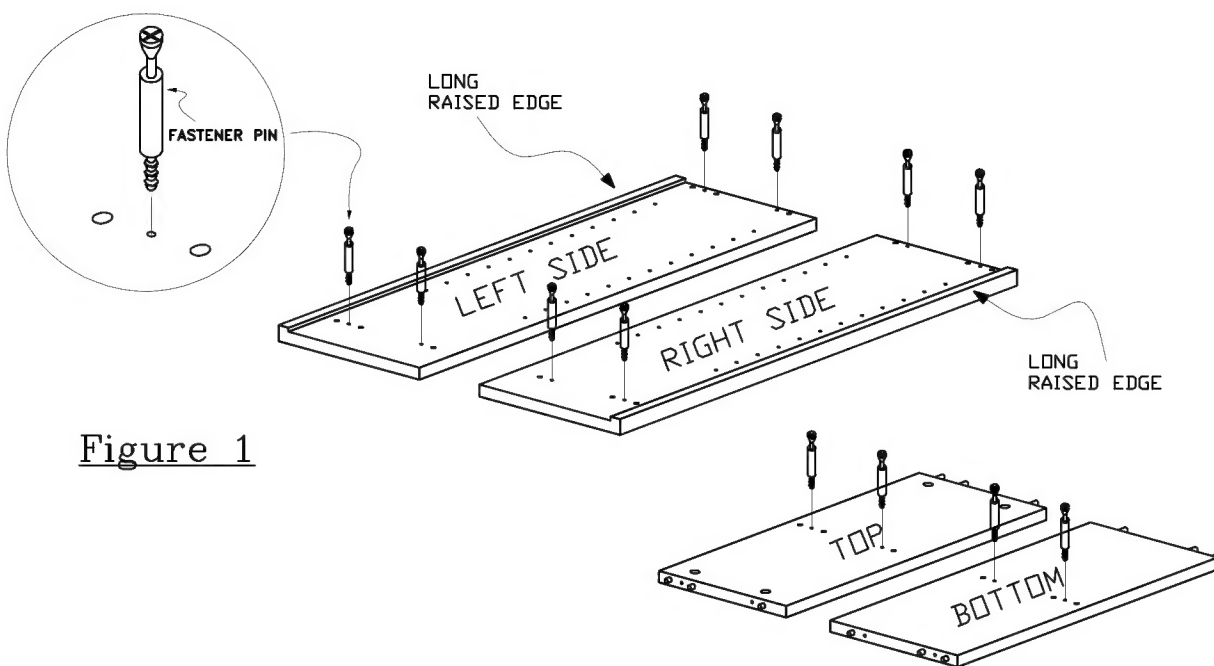

Figure 1
Step 2. On a clean soft surface, such as a carpet or the inside of the carton, place **RIGHT SIDE**, with the small-predrilled holes facing up and the long raised edge facing towards you. See Figure 1.
Step 3. Insert and screw 4 metal fastener pins into 4 small pre-drilled holes of **RIGHT SIDE**. **DO NOT OVER TIGHTEN.** See Figure 1.
Step 4. With your friend, carefully place **LEFT SIDE**, with the small-predrilled holes facing up and the long raised edge facing towards you. See Figure 1.
Step 5. Insert and screw 4 metal fastener pins into 4 small pre-drilled holes of **LEFT SIDE**. **DO NOT OVER TIGHTEN.** See Figure 1.
Step 6. With your friend, carefully place **TOP** (finished on both sides), with the small-predrilled holes facing up. See Figure 1.
Step 7. Insert and screw 2 metal fastener pins into 2 small pre-drilled holes of **TOP**. **DO NOT OVER TIGHTEN.** See Figure 1.
Step 8. With your friend, carefully place **BOTTOM**, with the small-predrilled holes facing up and unfinished face with big holes (for cams) facing down. See Figure 1.
Step 9. Insert and screw 2 metal fastener pins into 2 small pre-drilled holes of **BOTTOM**. See Figure 1.